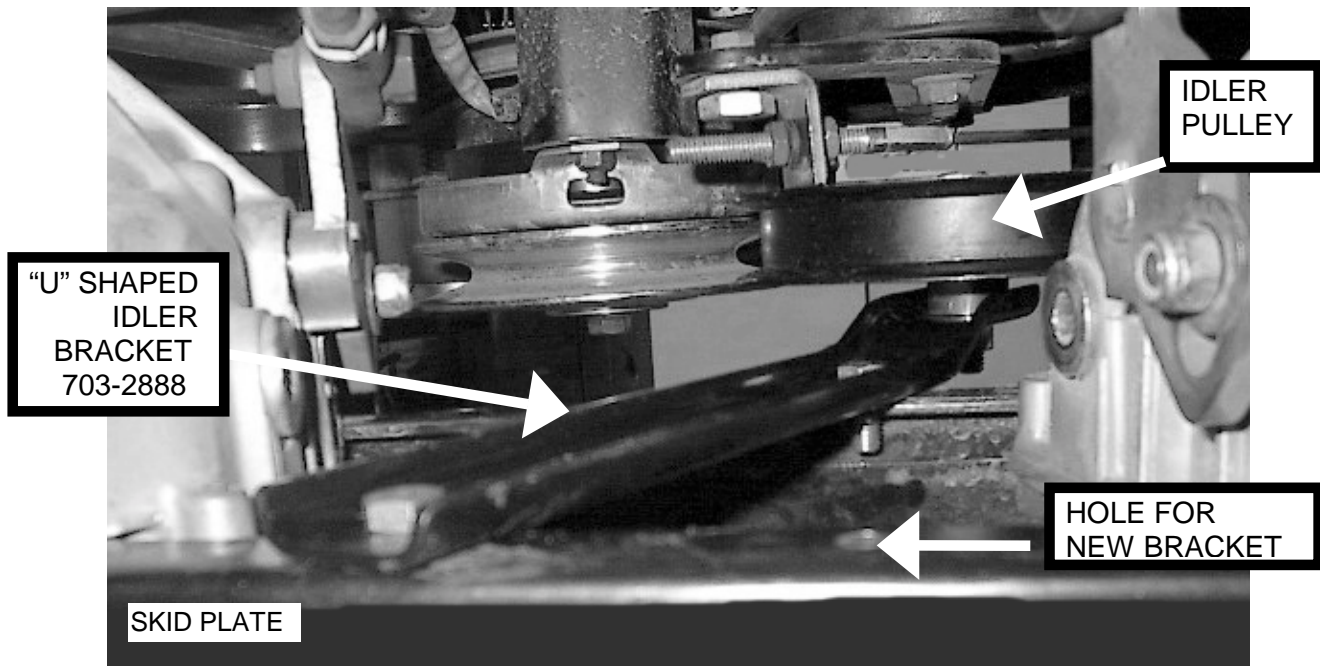

FIGURE 1 NOTE: VIEW FROM UNDER UNIT WITH MOWER DECK REMOVED.
2. Remove existing “U” shaped idler bracket (703-2888) and retain hardware for new idler bracket. Refer to figure 1.